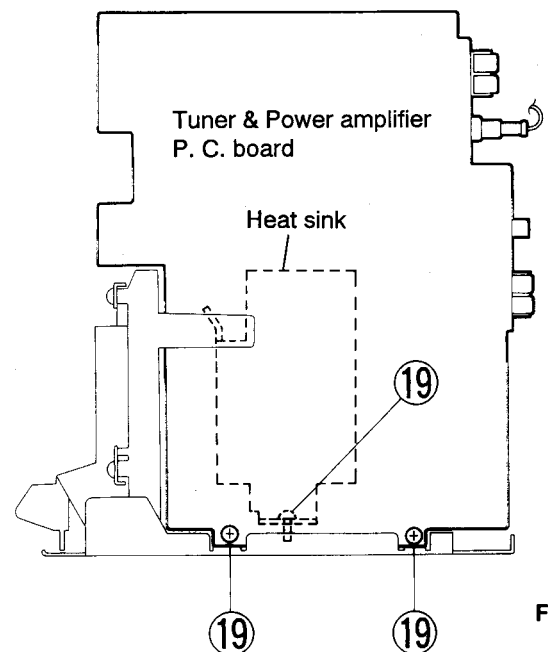

Fig. 5-18
■ How to Remove the Tuner & Power Amplifier P.C. board (Refer to Figs. 5-18 and 5-19)
4. Remove the three screws (19) retaining the tuner & power amplifier P.C. board.